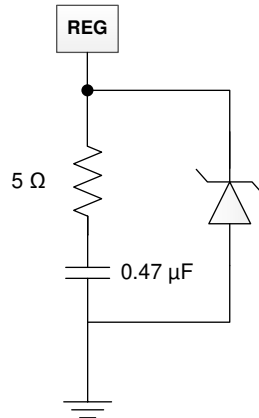

**Figure 8-2. 3-Series BQ2961 and BQ2962 Schematic**
1. If the VSS pin cannot be connected first, it is required to add a resistor of a minimum of 5Ω to a maximum of 10Ω (a 5Ω resistor is used in the reference schematic, Figure 8-2) in series with the REG capacitor. When VSS is floating, the REG capacitor always charges up to the VDD voltage. When VSS is finally connected, the REG capacitor will be discharged. Adding a small resistor in series reduces the current strength and avoids any potential damage to the REG pin. The 5Ω resistor can be placed in series with the REG connect circuit (as shown in Figure 8-2) or in series of the REG capacitor (as shown in Figure 8-3). Placing the resistor in series with the REG circuit results in a small drop of  $V_{REG}$  (for example: max loading of  $I_{REG}$  mA with a 5Ω resistor will drop 5mV on  $V_{REG}$ ), but such a connection can protect against rush current discharge from a REG capacitor or an external filter capacitor connected to the REG pin. Placing the resistor in series with the REG capacitor is an alternative to avoiding an additional drop in  $V_{REG}$  if the filter capacitor used by the external circuit is much smaller than the REG capacitor.
3. The cell should be connected to the lower  $V_n$  pin; the unused  $V_n$  pin should be shorted to the ( $V_{n-1}$ ) pin. See Figure 8-2 for details.